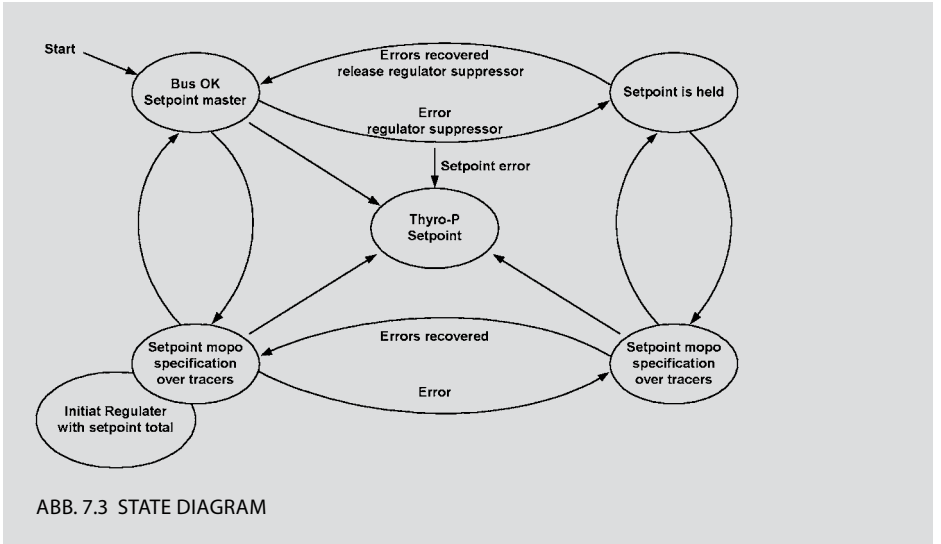

ABB. 7.3 STATE DIAGRAM
3. When switching from local to remote the process regulator must be initialized with the „setpoint total“ and shall only be activated afterwards. The following flow chart is a result of the above adjustments (see Figure 7.3).